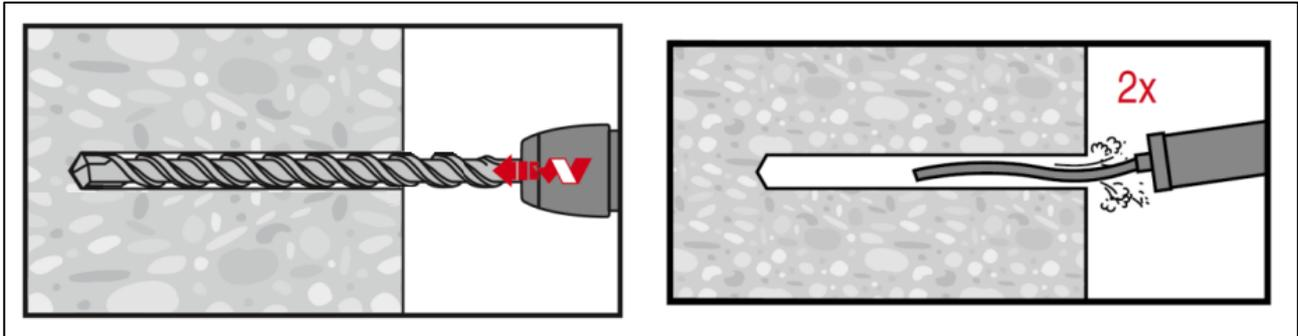

Figure 10: Anchor Hole Drilling for Transition
Mark the selected hole pattern on each side of the TALL42™ barrier, remove the transition template and drill the three (3) anchors holes on each side using a 16mm diameter masonry drill to a depth of 100mm. Thoroughly clean the holes using a hand pump or compressed air as shown in Figure 10.